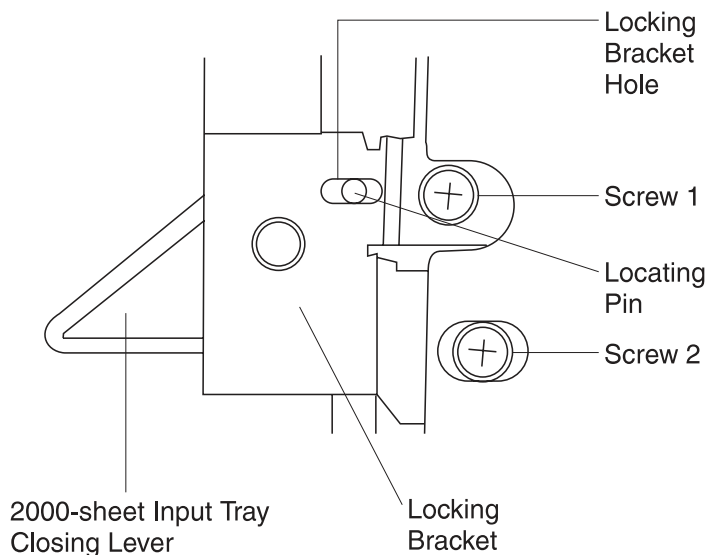

Figure 4-3 Tray 4 Position Adjustment
- 4 Loosen both screws that support the paper tray locking bracket on the right side of the 2000-sheet Input Tray (see figure 4-3).
- 5** Locate the bracket hole and pin at the middle (right side) (see figure 4-3).